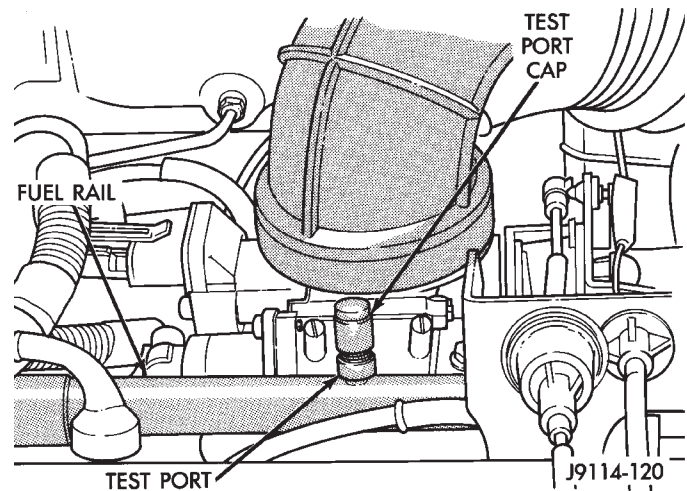
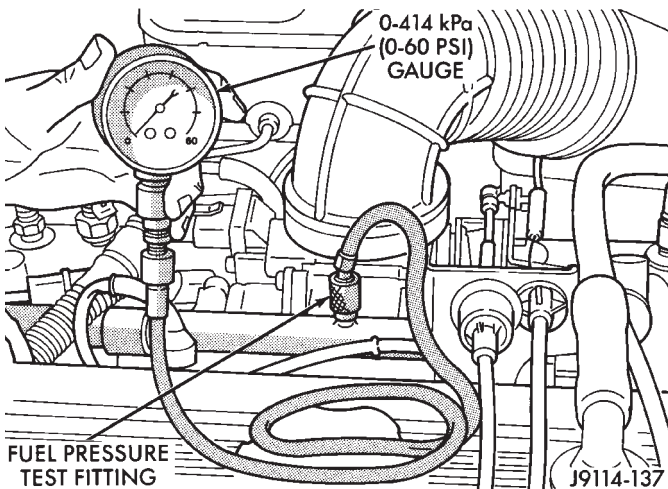

Fig. 7 Pressure Test Port—Typical
Fig. 9 Fuel Pressure Test Connection—Typical
- (3) Remove protective cap from pressure test port on the fuel rail (Fig. 7).
- (4) Obtain the fuel pressure gauge/hose assembly from fuel pressure gauge tool set 5069. Remove the gauge from the hose.
- (5) Place one end of hose (gauge end) into an approved gasoline container.
- (6) Place a shop towel under the test port.
- (7) To release fuel pressure, screw the other end of hose onto the fuel pressure test port.
- (1) Remove the protective cap at the fuel rail (Fig. 7). Connect the 0-414 kPa (0-60 psi) fuel pressure gauge (from Gauge Set 5069) to test port pressure fitting on fuel rail (Fig. 9).